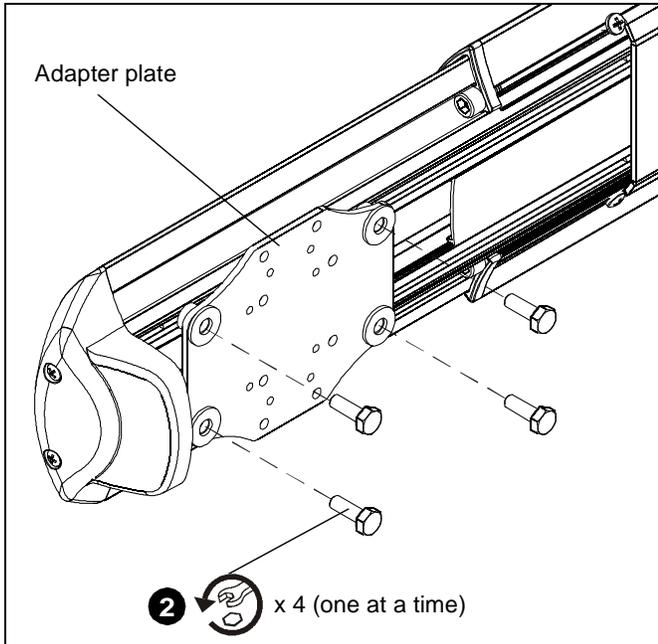

Figure 44
- Remove one of four bolts from adapter plate. (See Figure 44)